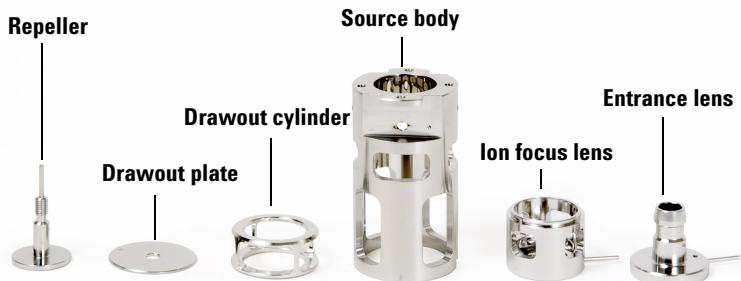

Figure 24 Standard EI ion source parts to be cleaned
- 3 Collect the following parts to be cleaned if you are cleaning a standard EI ion source. (Figure 24)